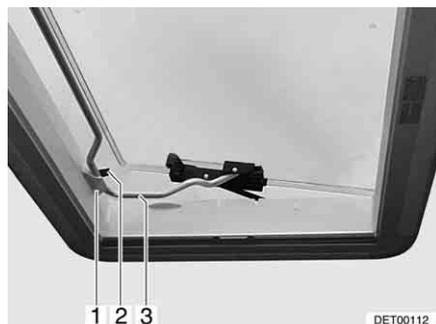

Fig. 76 Heki skylight in ventilation position 2
- Insert the bar (Fig. 76,3) into the holder (Fig. 76,1).
- Place the lever (Fig. 76,2) over the bar.